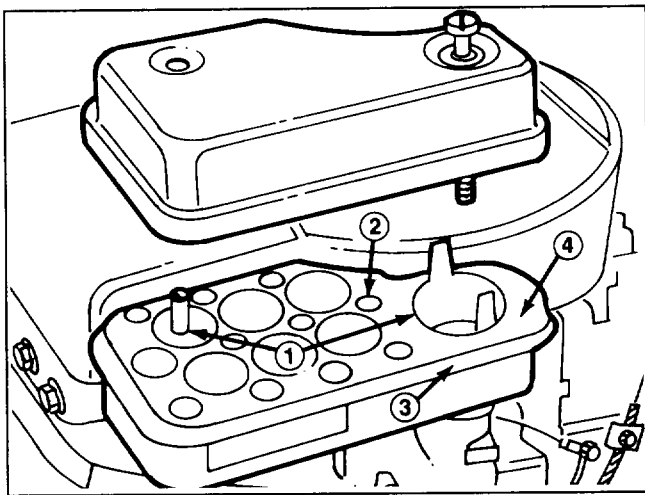

Figure 10
3. Remove cover and screen from foam element, remove spacers from element and element from body (Fig. 10). Examine element for dirt or discoloration and clean if necessary.